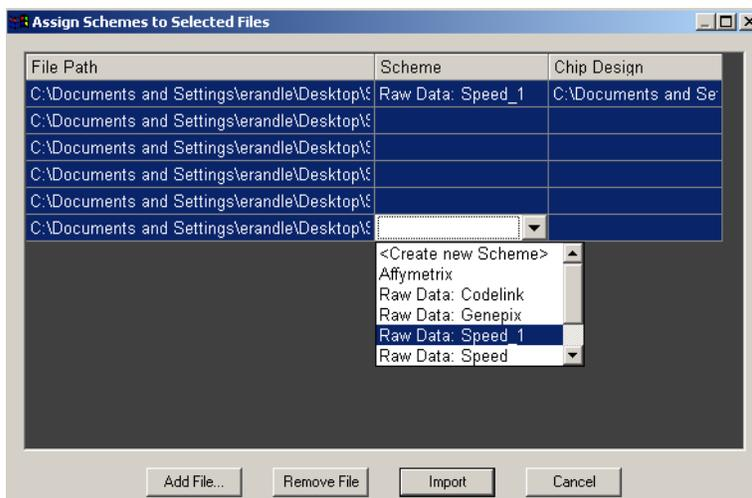

Figure 18 Assign Schemes dialog box, selecting the import scheme
1. You are returned to the Assign Schemes to Selected Files dialog box (Figure 18):